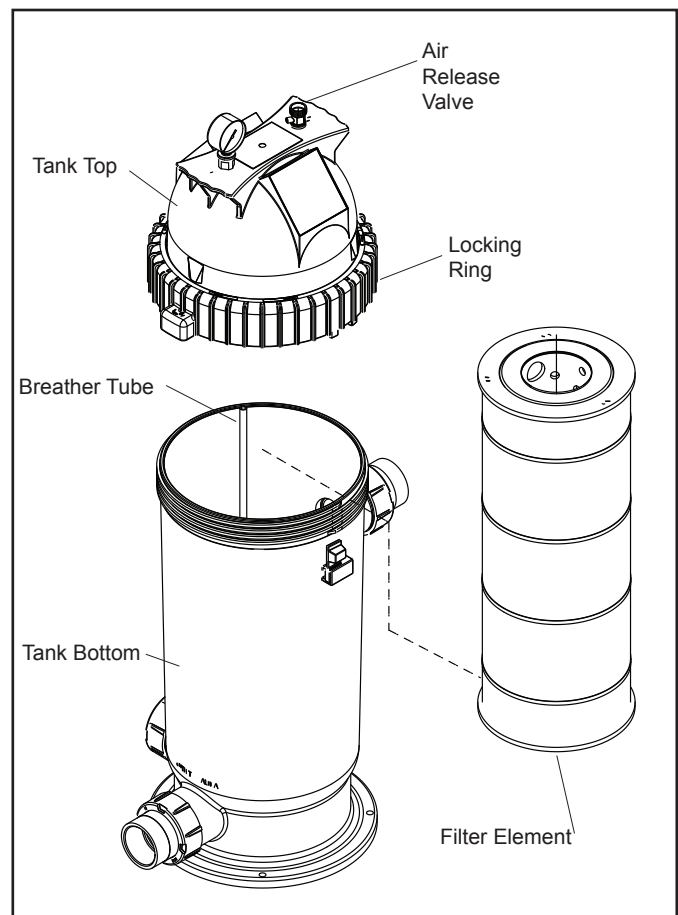

Figure 8. Filter Element Removal
- Open air release valve on top of the filter tank to release all pressure from inside the tank and system (see Fig. 8). Close any filter isolation valves on the system to prevent flooding.